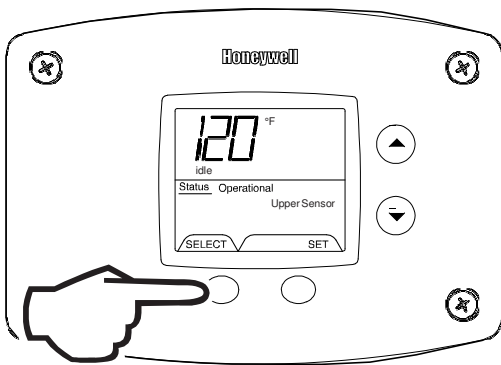

Fig. 45
2. For water heaters using two temperature sensors, pressing the 'Select' button again displays the Upper Sensor temperature reading. 'Upper Sensor' will be displayed in the lower right side of the status window of the water heater display (Fig. 45).